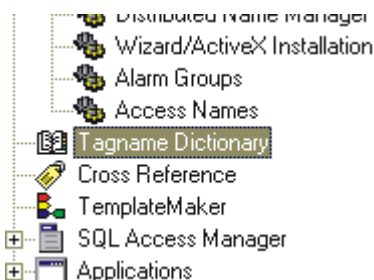
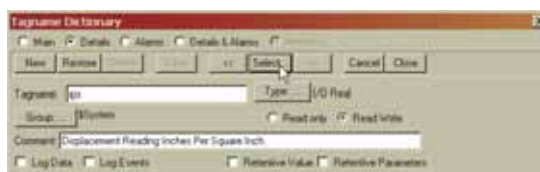

FIG. 247: WINDOWMAKER/SELECTING TAGNAME DICTIONARY
FIG. 248: WINDOWMAKER/CREATING A TAG NAME
- Step 39. Click on Tagname Dictionary. (See Fig. 247) The Tagname Dictionary dialog box appears. (See Fig. 248)